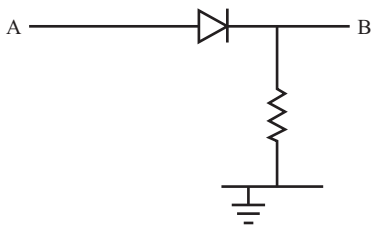
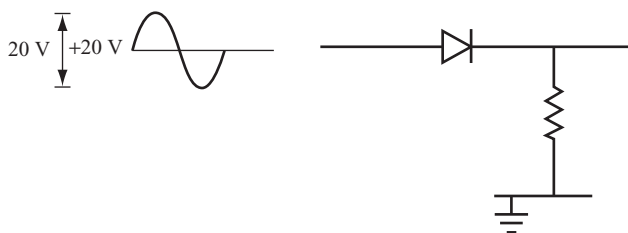

FIGURE 11.1
FIGURE 11.2
Assume that you apply + 20 volts DC at point A of the circuit, as shown in Figure 11.1.
**2** Figure 11.2 shows the circuit in Figure 11.1 with a  $20\text{ V}_{\text{pp}}$  AC input signal centered at  $+20$  volts DC.